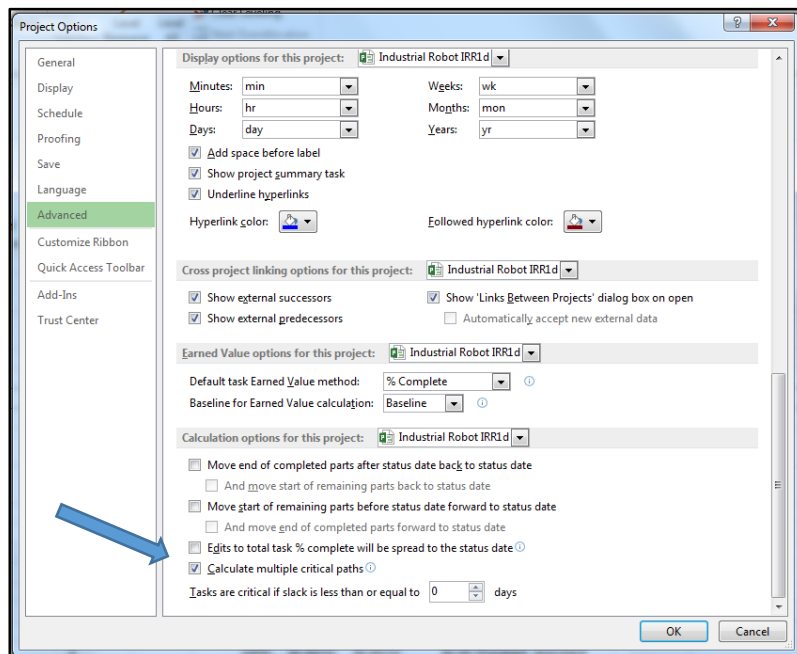

Figure 25
- If you wish to see multiple critical paths (for example, if you are working on a plan with multiple sub-projects), click File, Options. When the dialog box opens, click Advanced and scroll to the bottom, then click the Calculate Multiple Critical Paths checkbox. (Figure 25)
- If you wish to see multiple critical paths (for example, if your plan has multiple sub-projects), click File, Options. When the dialog box opens, click Advanced and scroll to the bottom, then click the Calculate Multiple Critical Paths checkbox (Figure 25).